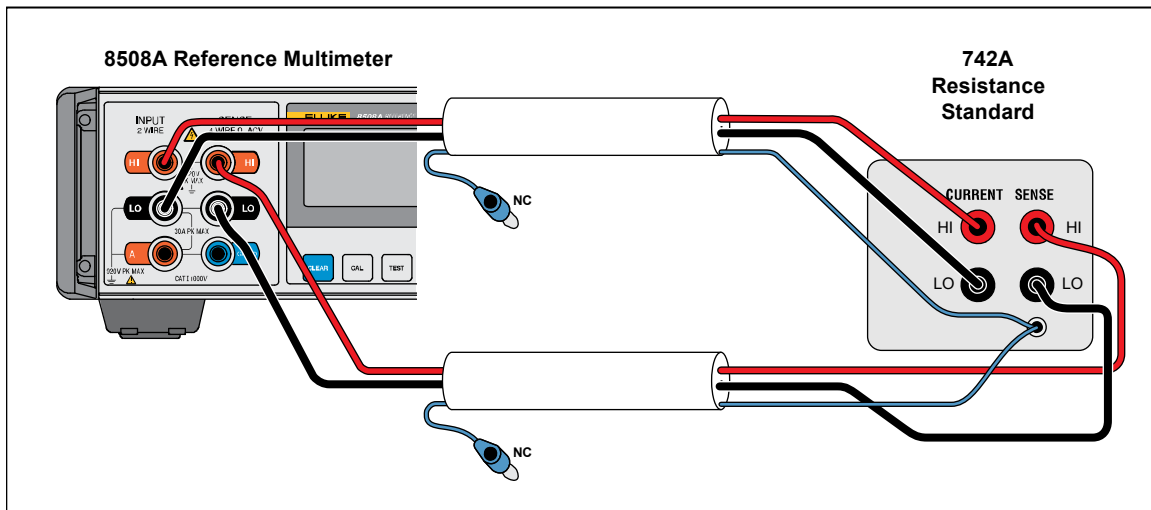

Figure 11. 10 Ω through 19 M Ω Resistance Verification
4. Connect the DMM to the first or next resistance standard (742A) given in Table 5 using the 5730A-7003 cables as shown in Figure 11.